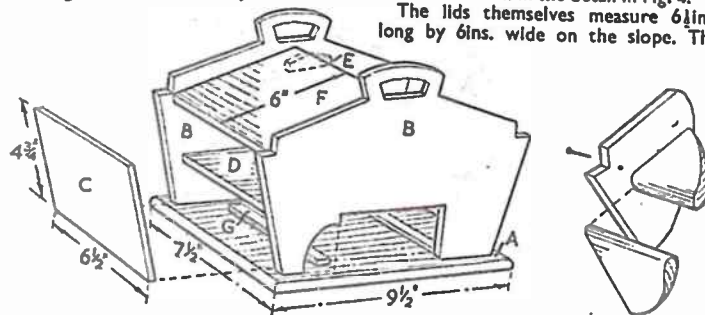

Fig. 3—Showing general construction
The floor (D) measures $9\frac{1}{2}$ ins. long by 6 $\frac{1}{2}$ ins. wide, and each end edge is chamfered, as shown in the detail Fig. 3, to meet the sloping ends. Before finally fixing the floor, the two drawer guides (G) must be glued to the base. These guides are simply small strips of wood about $\frac{1}{4}$ in. by $\frac{1}{4}$ in. They are put inside the opening for the drawer as shown, and their function is to prevent the drawer from running in unevenly from one side or the other.